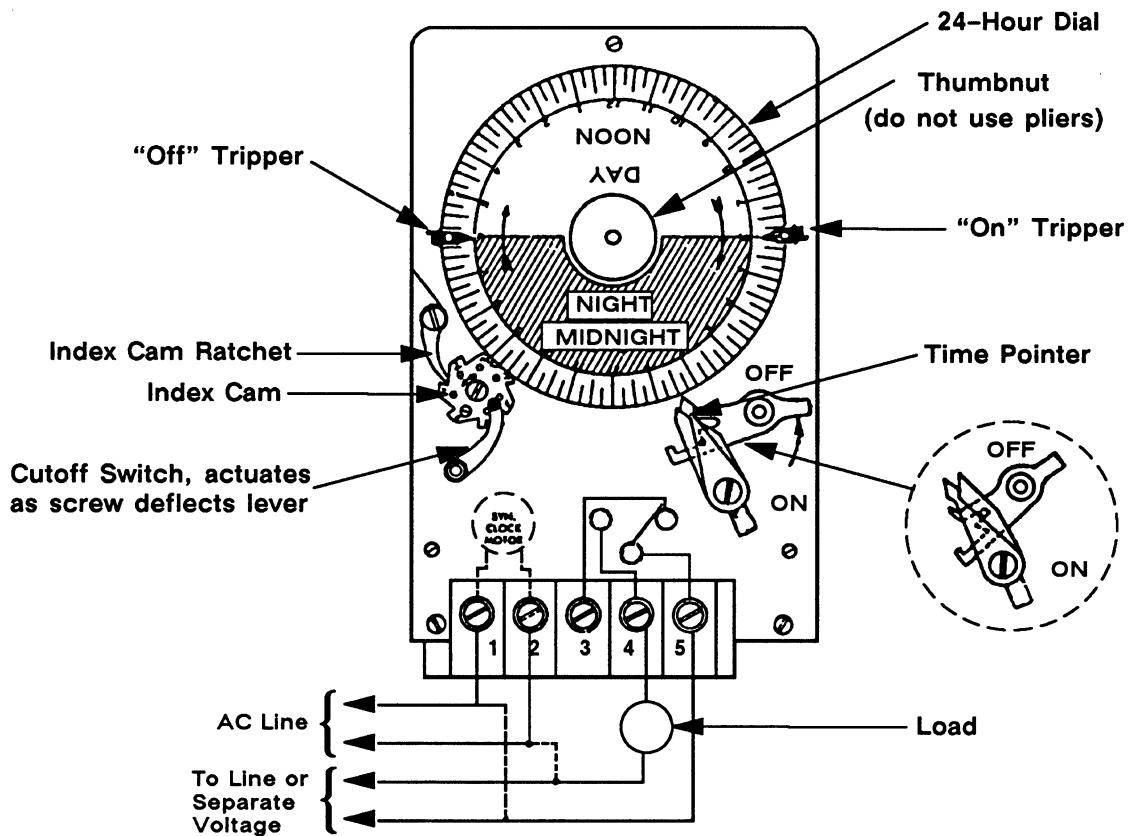

Figure 52. Exercise Timer (Acc. 23) Connections & Setting.
*To Adjust (see Figure 52.):
Acc. 23-G – Plant Exerciser with selector switch to select a simulation of power failure or engine test mode. Selects a 23-C or 23-D type of operation. See Figure 52.